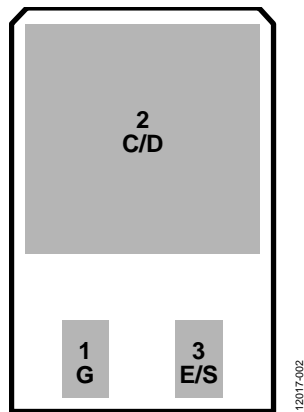

Figure 2. IGBT/MOSFET Footprint
- Q1 and Q2 can be populated with TO-252 MOSFETs or IGBTs with the pinout shown in Figure 2.